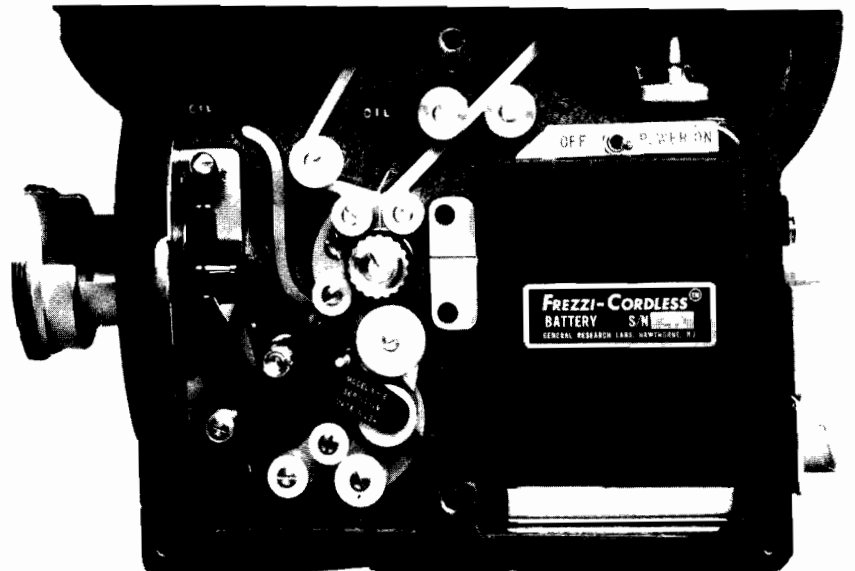

FIGURE 17
- c) Push the battery all the way in until it is firmly seated. The battery will only make proper contact when it is properly seated. See Figure 17.